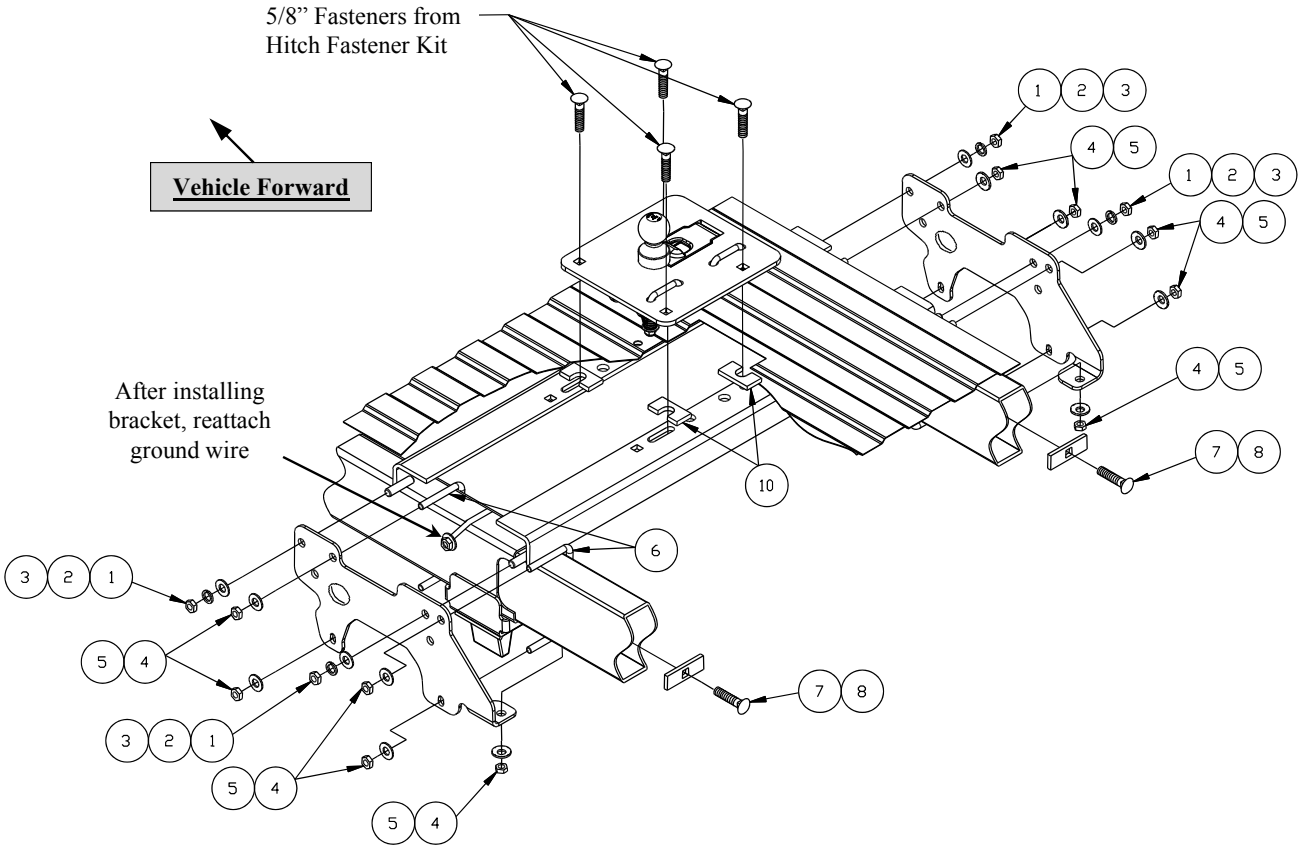

Figure 1
- 2a. **Positioning the cross members from underneath:** Place the cross members into position between the top of the frame and under the bed as shown in Figure 2, starting with the rear cross member. Note: the cross members in this kit are the same, but they face different directions as shown in Figure 1. Slide the rear cross member between the driver's side frame and the vehicle bed, then over the exhaust (Figure 2a). Slide the right end of the cross member over the passenger's side frame and back against the rear bed support. Install the forward cross member as shown in Figure 2b.